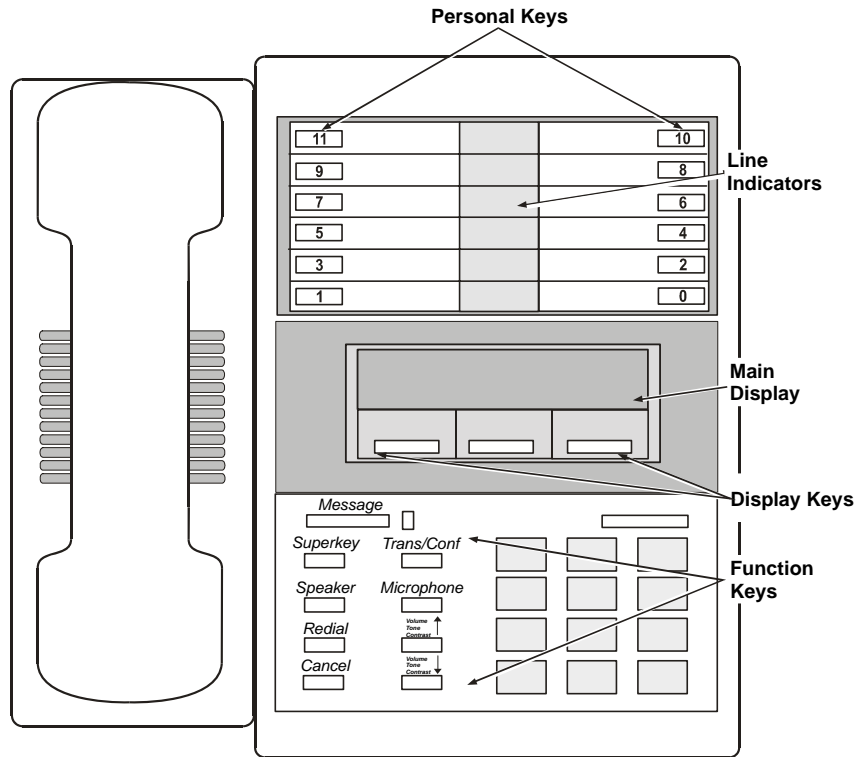
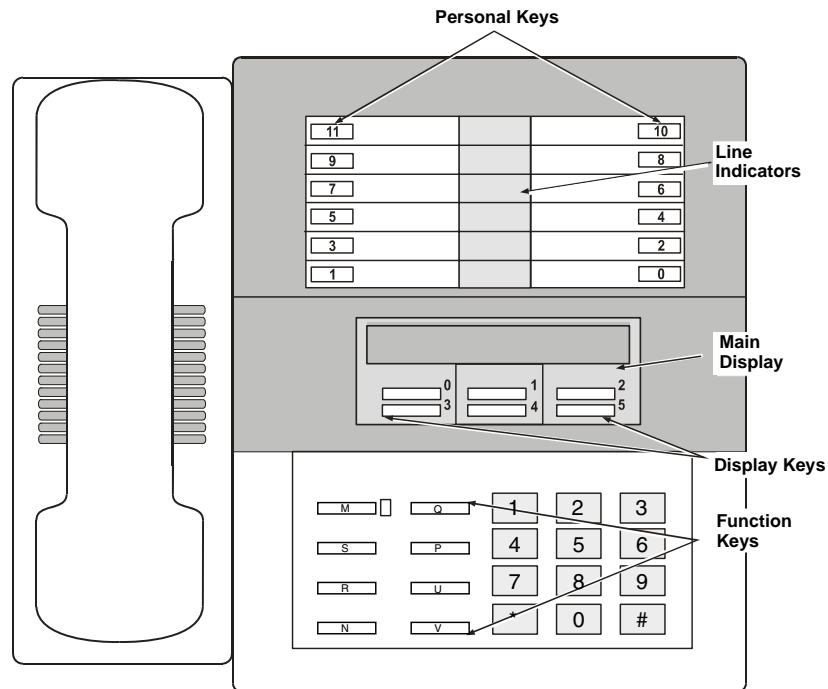

Figure 8. Mitel Superset 420 Telephone
Figure 9. Mitel Superset 430 Telephone
- Configure Personal Key 02 (see Figure 8) to act as to act as an Attendant Console Message Waiting Indicator key.
Personal Key 10 should store the MWI OFF feature access code and Personal Key 11 should store the MWI ON feature access code (see *Figure 9*).
As seen in Figure 8 and Figure 9, there are 12 Personal Keys located on the top-right portion of Superset 430 and Superset 420 telephones. Some of these keys are configured when the PBX is programmed to select preassigned lines. Keys that are not configured can be defined by the user (using the telephone set or the PBX integration board) as speed dial or Feature Keys. There is an LCD Line Indicator associated with each Personal Key. The LCD Indicators are triangular and can take on one of the six states listed in Table 15.
As shown in *Figure 8* and *Figure 9*, there are a number of Function Keys found to the left of the dial key pad on the Mitel Superset 420/430 telephones. The PBX integration board can emulate these keys to perform various operational functions.
As shown in Figure 8, there are three Display Keys or Soft Keys located below the LCD display on the Mitel Superset 420 telephone. These keys are associated with specific prompts shown on the LCD display depending on the current state of the phone.